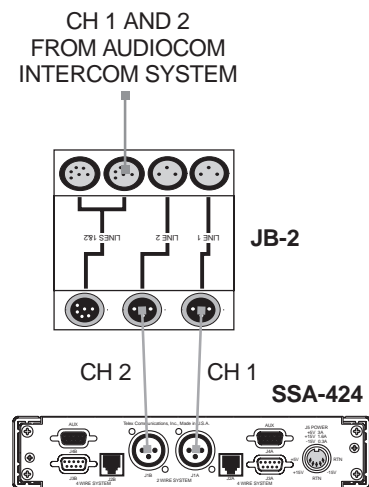

Figure 4. Using a JB-2 Junction Box to split a 2-channel Audiocom cable into two 1-channel cables.
1. You can directly connect standard Audiocom 1-channel cables. Connect one Audiocom channel to the J1A connector on the back of the SSA-424 (System A). Connect a second Audiocom channel to the J1B connector (System B). If your Audiocom system uses 2-channel cables, use a JB-2 Junction Box to split the channels (Figure 4).